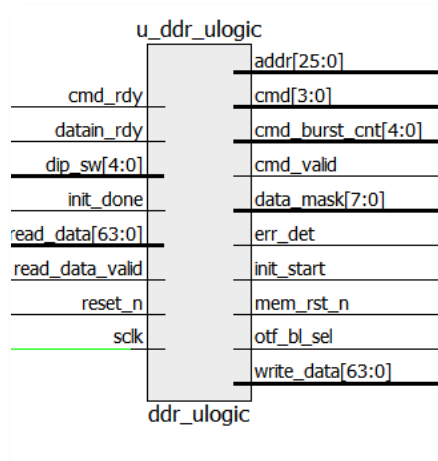

Figure 3.12. Module of Interest
1. Choose a module of interest (no need to select). Figure 3.12 shows the example of module of interest used.